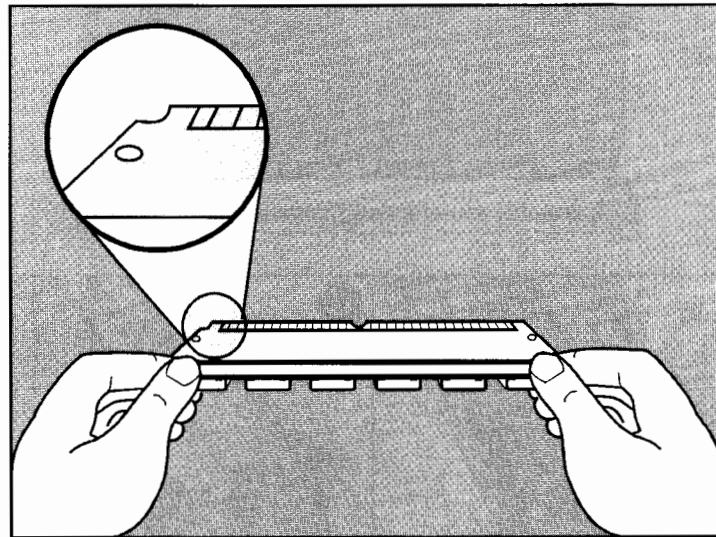

Figure 1-6. Holding the Board in Position for Installation
11. Remove the board from the antistatic package. Hold the board with your forefingers on the edges next to the holes and your thumbs against the edge on the back, as shown in Figure 1-6. Turn the PostScript SIMM board so the notch is on the *left* side, the metal edge faces toward the memory slot, and the chips are on the lower side.